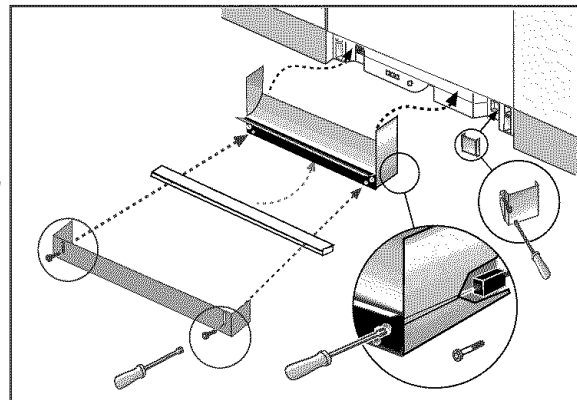

Figure 26
- Place J-Box Cover on J-Box, insert and tighten screw (Figure 26).